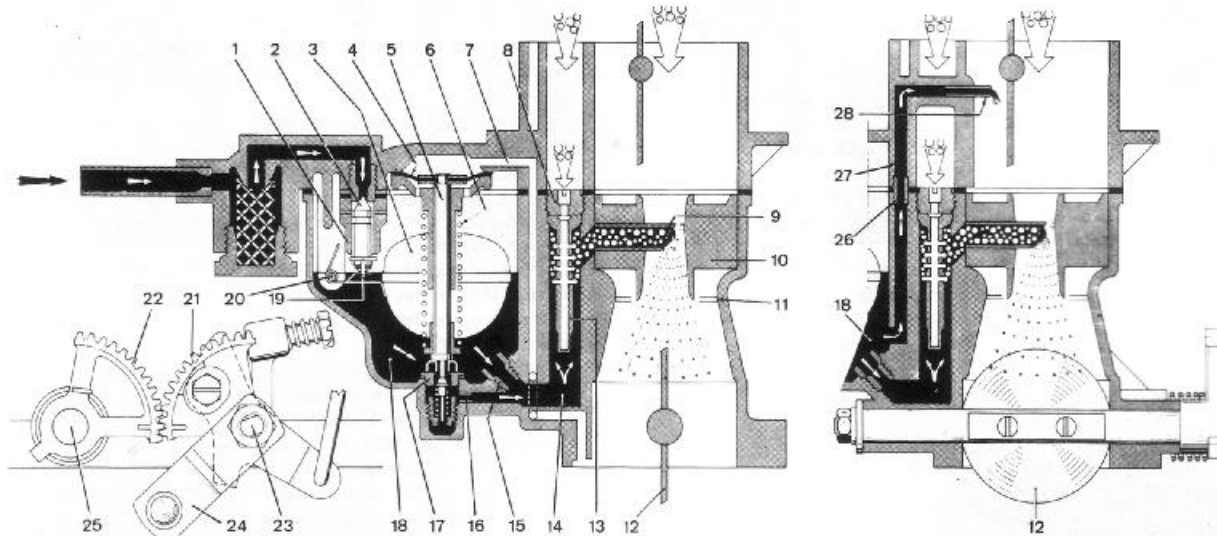

Fig. 9.6 Carburettor normal phase (DGAS types) (Sec 3)
DGAS type carburettors are also equipped with a full power valve which operates immediately the throttle valves are opened quickly. Refer to Fig. 9.6 and note that under these conditions the vacuum through the channel (7) is insufficient to draw the diaphragm (4) against the spring (6). The operating rod (5) therefore opens the full power valve (17). The fuel level in the emulsion tube wells (14) immediately rises and the mixture drawn from the nozzle (9) is enriched. When the throttle valves (12) are partially open, the vacuum through the channel (7) overcomes the tension of the spring (6) and the full power valve shuts.